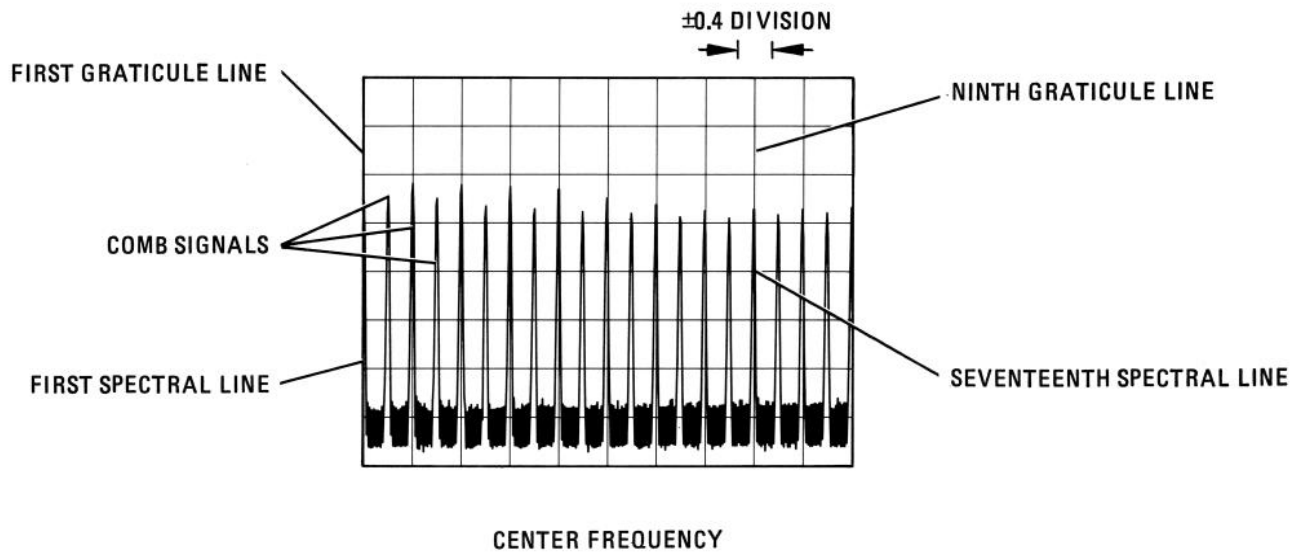

FIGURE 4-3. FREQUENCY SPAN ACCURACY MEASUREMENT FOR SEVENTEENTH SPECTRAL LINE
5. Set comb generator COMB FREQUENCY – MHz for 10-MHz comb. Set spectrum analyzer FREQ SPAN/DIV to 20 MHz. Adjust TUNING control to position one spectral line at first graticule line. Measure error between 17th spectral line and ninth graticule line as shown in Figure 4-3. Error should be no greater than ± 0.4 division.